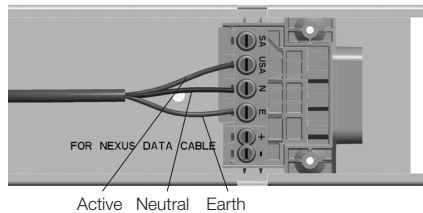

Figure 1: Quickfit terminal block connection
5. Run the cables in the ceiling or wall space as appropriate or surface mounted in conduit and through the cable hole into the bracket. Strip, connect and terminate the cables as indicated in figure 1. Ensure that the double insulation of the cable/s passes completely into the terminal block enclosure so that no single insulation is exposed when the cover is in place. The hole plug set includes a suitable bush to mechanically protect the cable as it passes through the opening in the mounting bracket. Likewise, the single insulation of the conductors should run right up to the metal edge of the terminals leaving no bare conductors outside of the terminals. Be careful with multi-strand conductors that all of the strands are twisted together before insertion into the terminal. Any stray strands that inadvertently come into contact with their neighbouring terminal or the metal frame of the fitting will cause undesirable results when the fitting is powered.